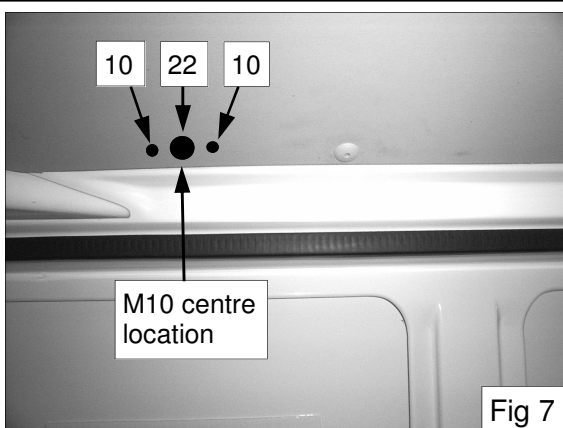

Fig 7
2. **Top Mounts;** horizontal with the side of vehicle. (Fig. 7)
3. Drill a 22mm hole using a hole saw at all centre M10 locations. (Fig. 7)
4. Drill outer holes to 10mm. (Fig. 7)